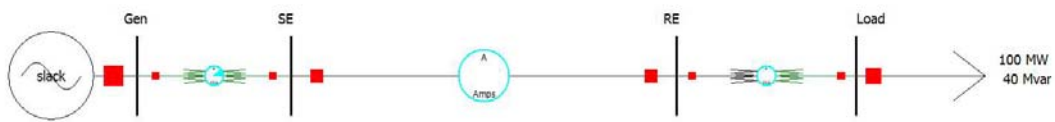

FIGURE -5
- (a) Draw the oneline diagram of the system in the PowerWorld Simulator, using the procedures described in Experiment 9 The system schematic should look like the one shown in Figure-5